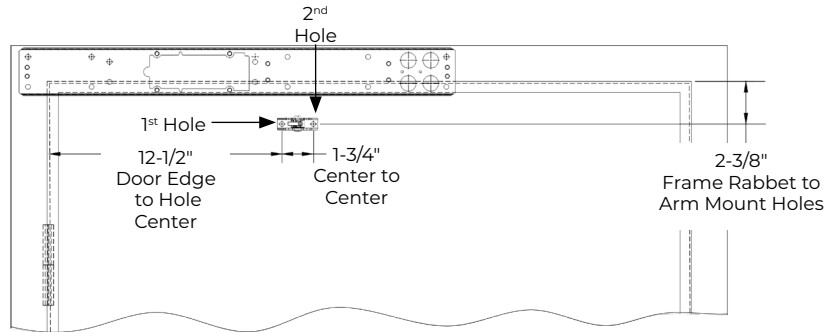

Figure 4
- Using the template (available for download from www.nortonrixson.com), measure and mark the door for the first forearm shoe mounting hole. (Figure 4)
- Using the forearm shoe as template, mark and drill the second mounting hole. (Figure 4)